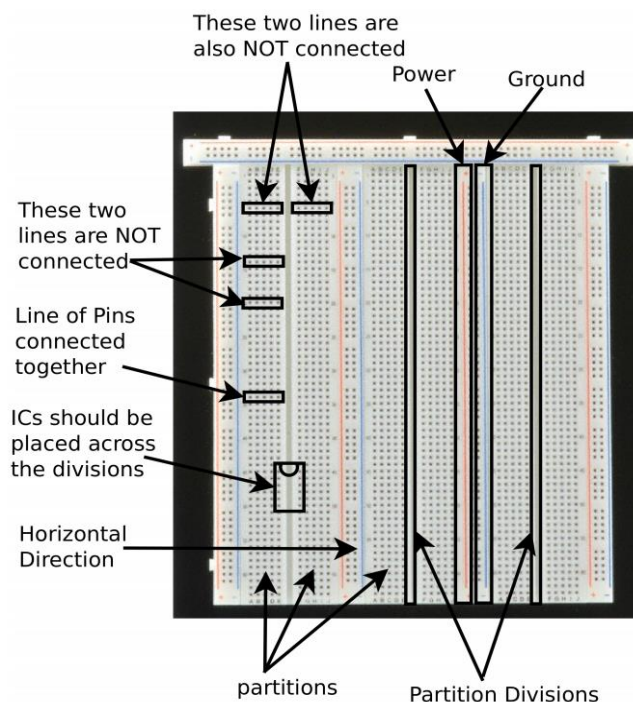

Figure 4: Overview of the breadboard
2. Vertical lines are NOT electrically connected, except in the case of a power or ground line (see Figure 4).
3. Power and Ground lines shown vertically in Figure 4 are electrically connected. In the lab, you will connect the 5V supply to one of the pins in the Power line. This will connect the entire column to the 5V supply. Similarly, the Ground signal needs to be connected to one pin in the Ground line.
4. All the Integrated Circuits (ICs) in the design should be placed across one of the partition divisions as shown in Figure 4. Do not place an IC in only one partition because this will short pins together causing the IC to burn up.
7. You may decide to always place the IC in such a way that the notch is located on the top (or bottom) as shown in Figure 4. This may help you identify pin numbers.